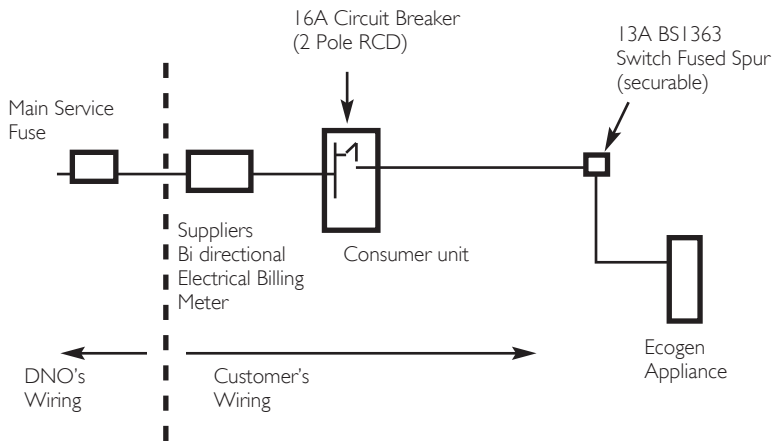

Fig. 13
Connection by dedicated circuit (Fig. 13)
12. To enable the FIT to be claimed the electricity generated and exported must be monitored by meters installed into the electricity supply as shown in Figs. 13, 13a and 13b, for the export either bidirectional meters as in Figs. 13 and 13a, or by leaving the existing meter and adding an additional meter as in Fig. 13b. An extra meter must be added just before the appliance to measure the electrical generation. The serial number must be submitted for MCS submission and recorded in both the DNO leaflet and the Micro CHP system commissioning checklist benchmark sheets at the back of these instructions.